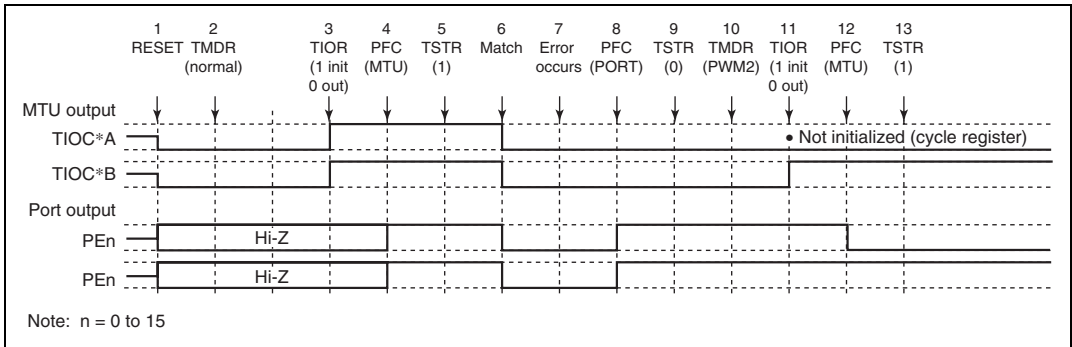

Figure 10.62 Error Occurrence in Normal Mode, Recovery in PWM Mode 2
(3) Operation when Error Occurs during Normal Mode Operation, and Operation is Restarted in PWM Mode 2: Figure 10.62 shows an explanatory diagram of the case where an error occurs in normal mode and operation is restarted in PWM mode 2 after re-setting.